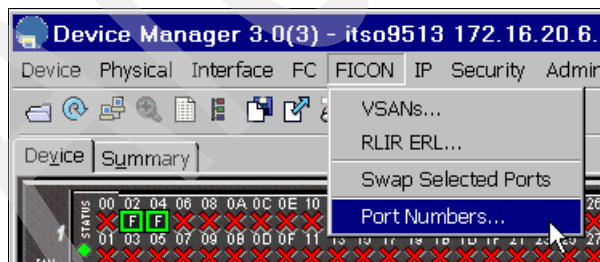

Figure 5 FICON port numbers
1. Select **FICON** → **Port Numbers** to display the FICON port numbers (Figure 5).